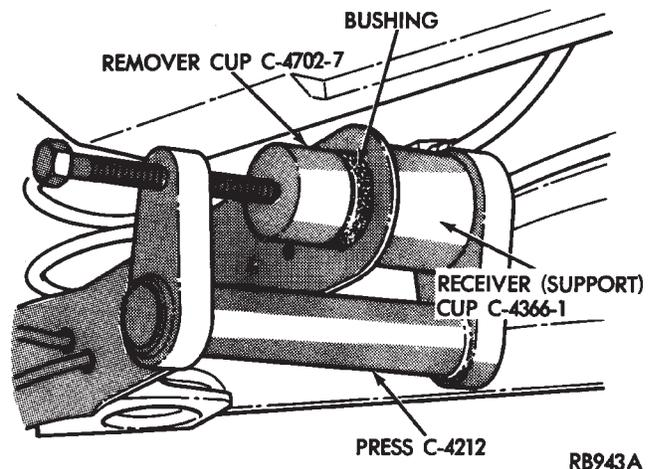

Fig. 4 Tools Installed To Remove Bushing
- (1) Install receiver (support) cup C-4366-1 into base of press C-4212 and Bushing Remover Cup C-4702-7 onto screw.
- (2) Position assembly with receiver bridge supporting trailing arm while turning screw to begin bushing removal.
- (3) After bushing has begun to move replace bushing remover/installer (round disc) with bushing remover (oval shaped disc). Use this assembly to finish pressing bushing out of trailing arm (Fig. 4).